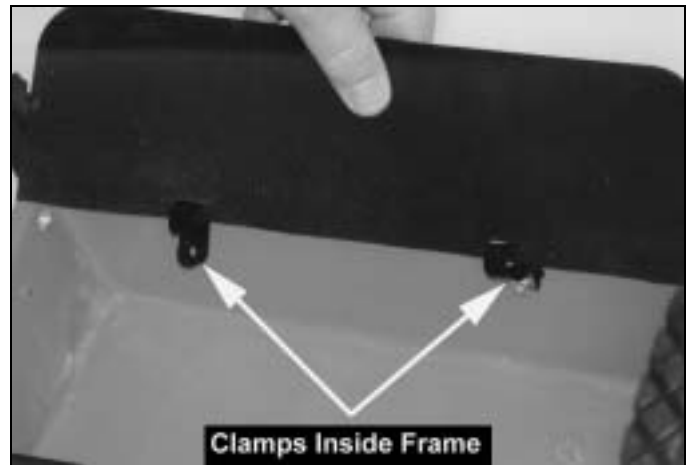

Figure 7
1. Mount the two black clamps on the rubber stone guard. With the clamp on the inside of the frame, insert the screws from the outside of the frame facing in, add the lock nuts and tighten them (*Figure 7*).